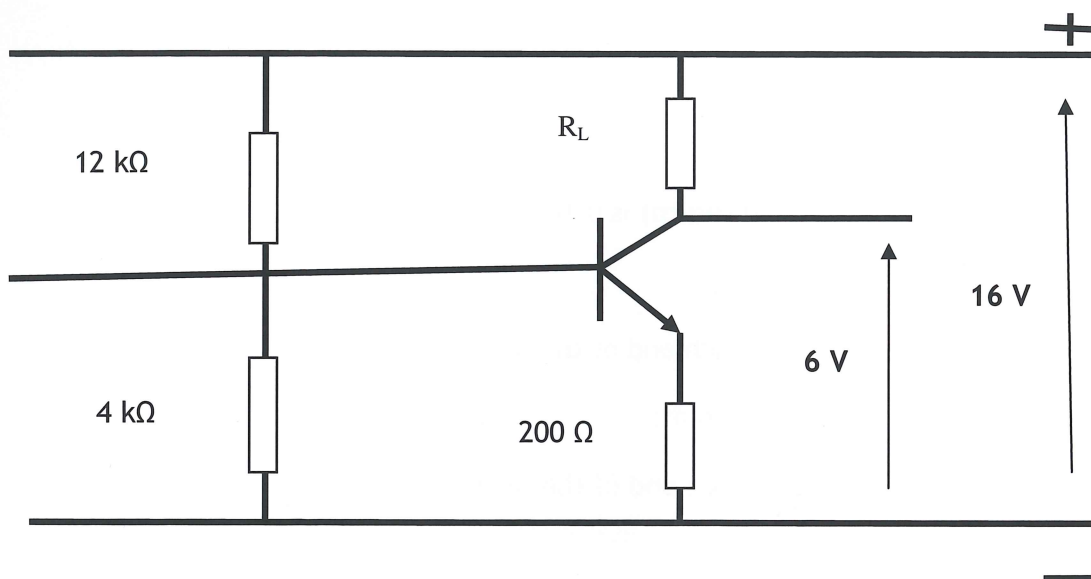

Fig Q3
- (i) the steady state relay current; (2)
- (ii) the time constant for the coil; (4)
- (iii) the inductance of the coil. (4)
- Calculate the new operating time for the relay. (6)
3. The p.d. between base and emitter for the transistor shown in Fig Q3 is 0.3 V and the steady state output voltage V_c is 6 V.